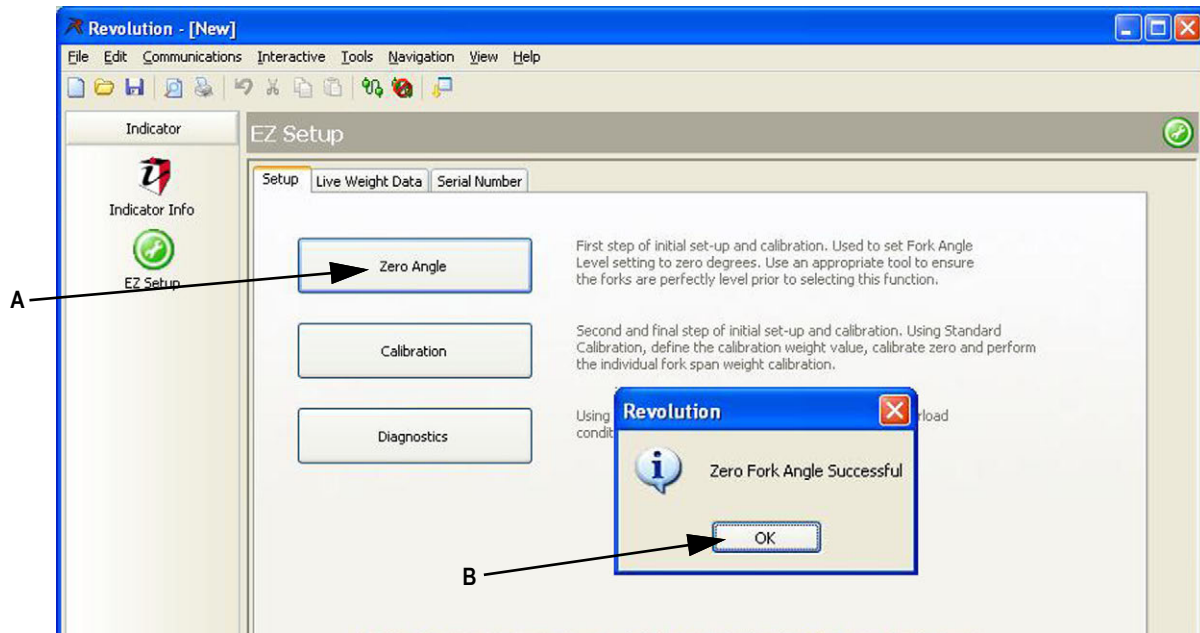

Figure 4-51. Zero Forks
2. In the setup screen, press **Zero Angle** (Figure 4-51 A).
3. A pop-up appears as shown in (Figure 4-51 B), press **OK** to close the pop-up box.